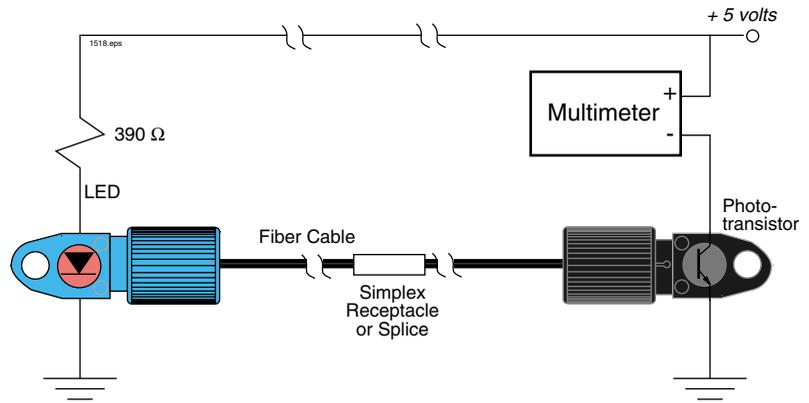

Figure 4.2 Test circuits for measuring cable transmission with bulkhead connectors and splices.
3. Assemble the electrical circuit shown in **Figure 4.2** on the solderless breadboard. Use the red LED device housing as the light source to start this activity.